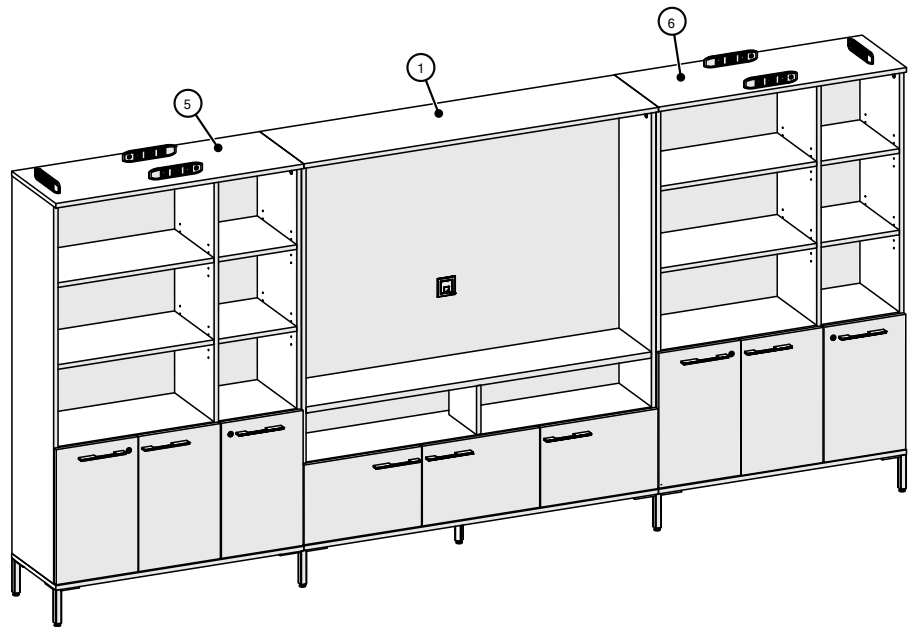

Figure 5
9. Level the storage unit from front to back and side to side by rotating the adjustable glide counterclockwise to extend the glide and raise the storage unit, (Figure 5).